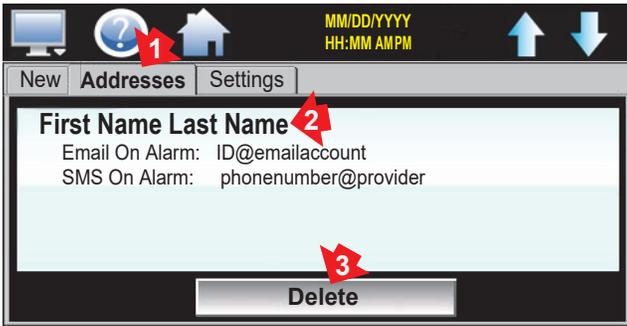

Figure 45. View & Delete User Email
3. View address. Touch: (1)Addresses tab - User listed. Delete a user, touch: (2)User listing (3) Delete button (Figure 45).